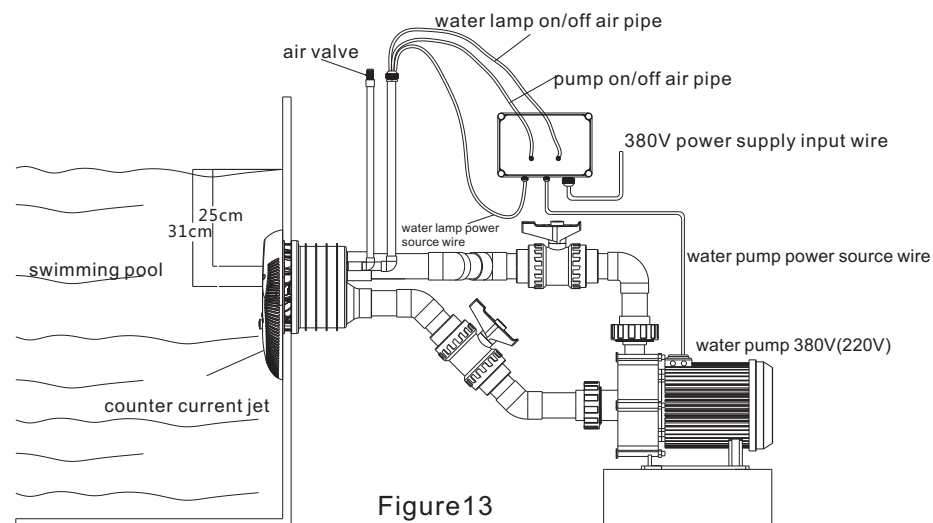

Figure13
- 1) please refer to figure 13 for the whole installation.